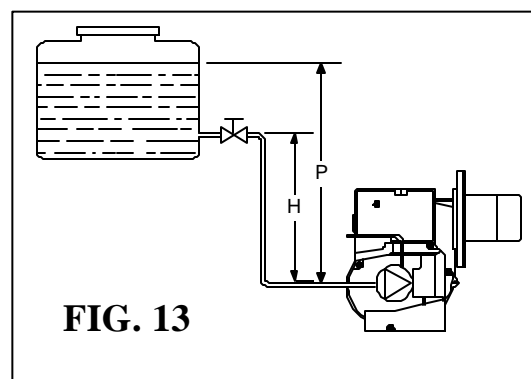

FIG. 13
Oil line connection to the inlet port (1) of the pump, can be made using a 1/4" NPTF fitting. Be sure that the return port plug (2) is tightened securely. Do not exceed the pipe lengths indicated in the table in FIG. 13.
WARNING: The height "P" in PIPE LENGTH for the tables in FIG. 13 and FIG. 14 should not exceed 13 feet (4 m)
SINGLE LINE (Gravity Feed) SYSTEM – FIG. 13